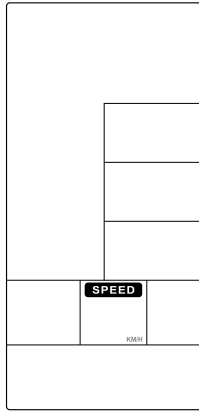

Figure 50
1. Hold on STOP&ENTER key for 2s, buzzer will sound 1 long beep. SPEED keep lighting up, M/H,KM/H flash once per second (Figure 50~51).